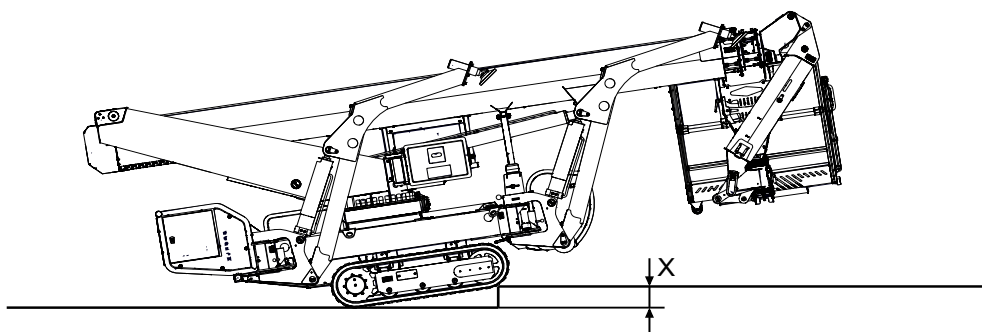

Fig. 106
- Observe the maximum height difference when driving over a ridge (max. ridge height $X = 100$ mm (Fig.106/X).
3. Make sure that the height of the ridge (Fig.106/X) you wish to drive over does not exceed 100 mm.
- Observe the machine's maximum tilt angle (Fig.106).